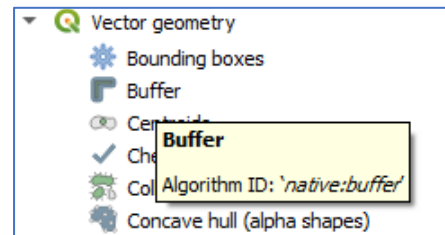

Fig. 1. By hovering over algorithm in **Processing toolbox** you can check its name to be called in calculator and outside scripts.
- We can call the algorithm by its **ID name** directly in the field calculator window. If you don't know the ID name, hover the mouse over the algorithm in the **Processing Toolbox**. A small window will be displayed indicating the name (Fig. 1): *buffer*. When calling an algorithm as a function, we need to pass its arguments (parameters) in parenthesis: